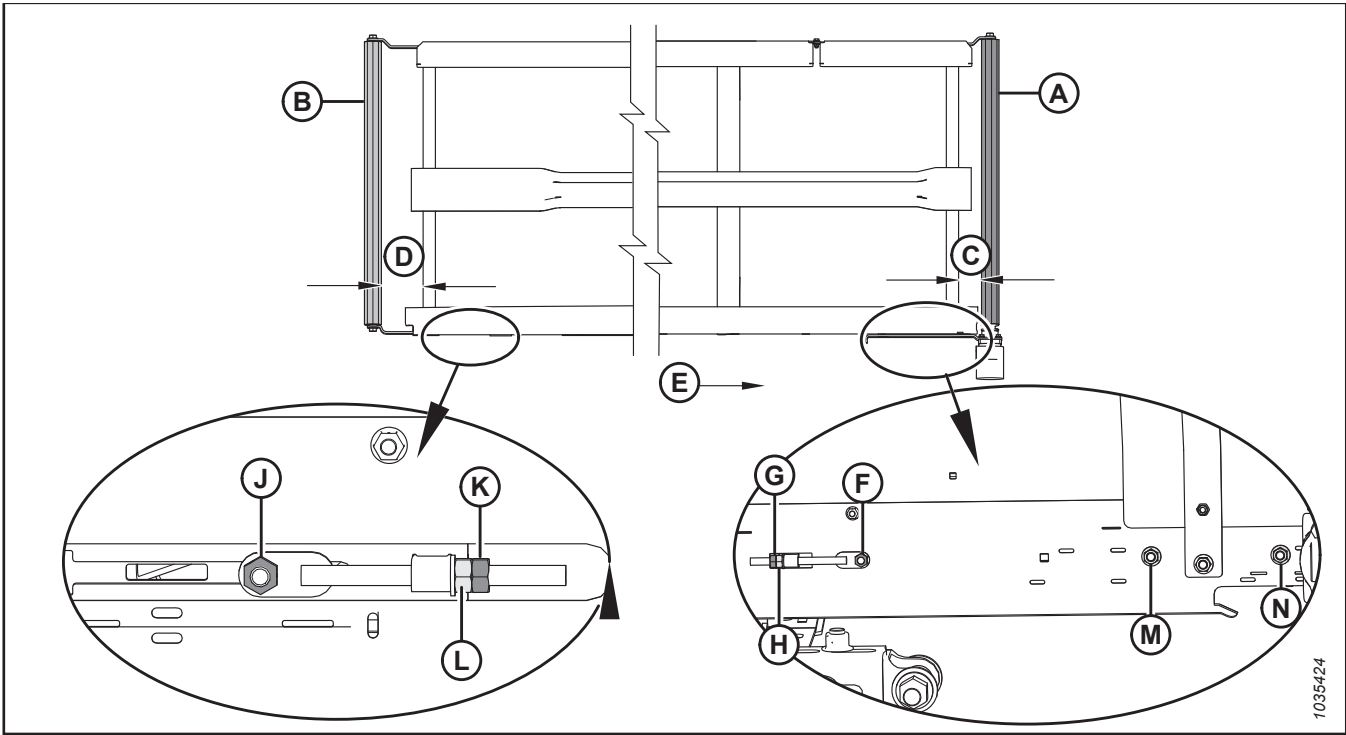

Figure 5.93: Draper Tracking Adjustments – Left Draper
2. Adjust drive roller (A) to change **C** (refer to Table 5.11, page 280 and Figure 5.93, page 280) as follows:
- a. Loosen nuts (F), (M), and (N), and jam nut (G).
- b. Turn adjuster nut (H).
- c. Tighten nuts (F), (M), and (N), and jam nut (G).
3. Adjust idler roller (B) to change **D** (refer to Table 5.11, page 280 and Figure 5.93, page 280) as follows:
- a. Loosen nut (J) and jam nut (K).
- b. Turn adjuster nut (L).